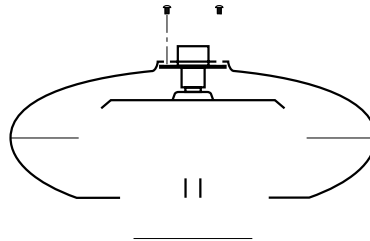

Figure 3d - Attaching Canopy to Fan Assembly
4. Attach the canopy tightly to the fan assembly with three #8-32 x 3/4" assembly screws and #8 lockwashers as shown in Figure 3d.